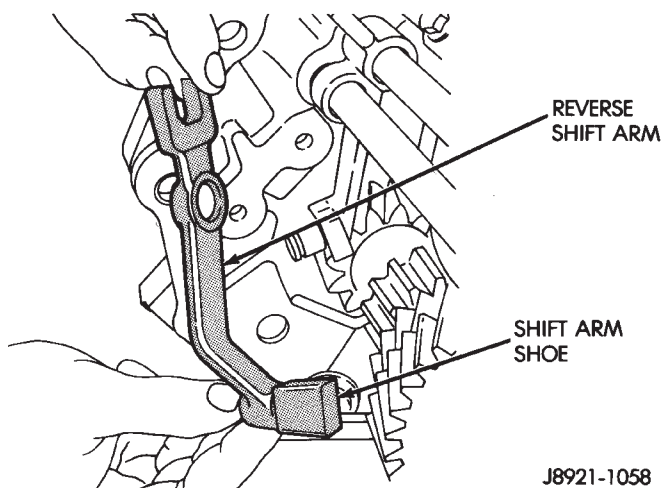

Fig. 28 Removing Reverse Shift Arm And Shoe
(7) Remove reverse shift arm and shoe (Fig. 28).